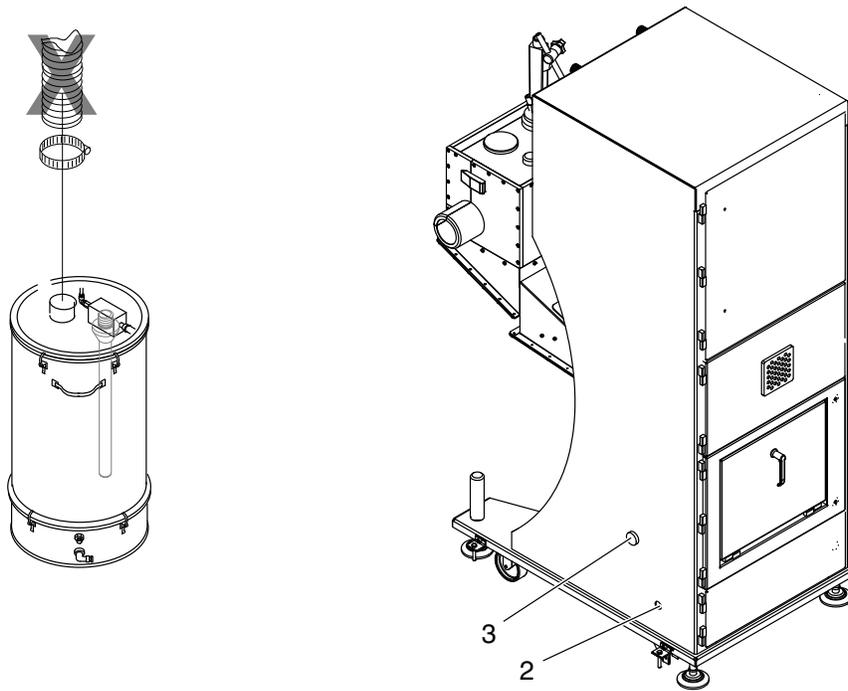

Fig. 3-13
- Replace the blind fitting *Hopper* (2, Fig. 3-13) with the bulkhead gland found in a bag in the lower part of the system. Screw the bulkhead gland onto the system wall such that the smaller diameter points into the system.
- Remove the blind fitting (3, Fig. 3-13) and save it for later use. The nut will be needed later.